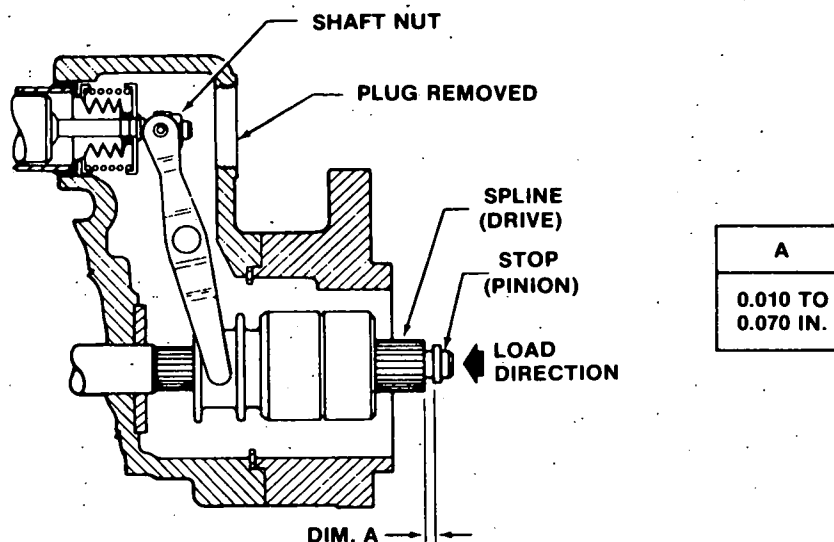

FIGURE 5-4. ADJUSTMENT TO PINION STOP CLEARANCE
4. Load drive back toward commutator end to eliminate slack (Figure 5-4).
5. Measure dimension A, shown in Figure 5-4.
6. Adjust clearance, if required, by removing plug from starter housing (Figure 5-4) and adjusting shaft nut to meet requirement of dimension A.